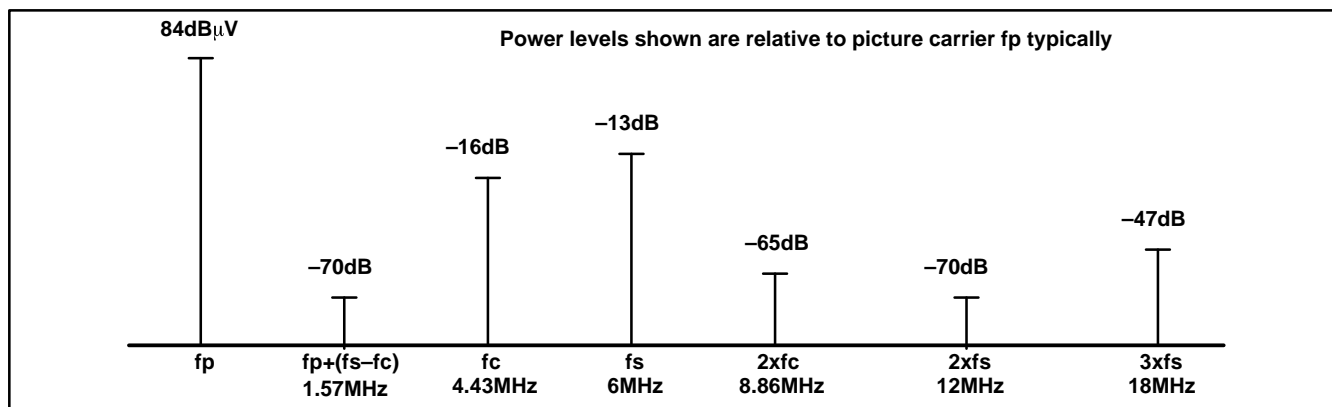
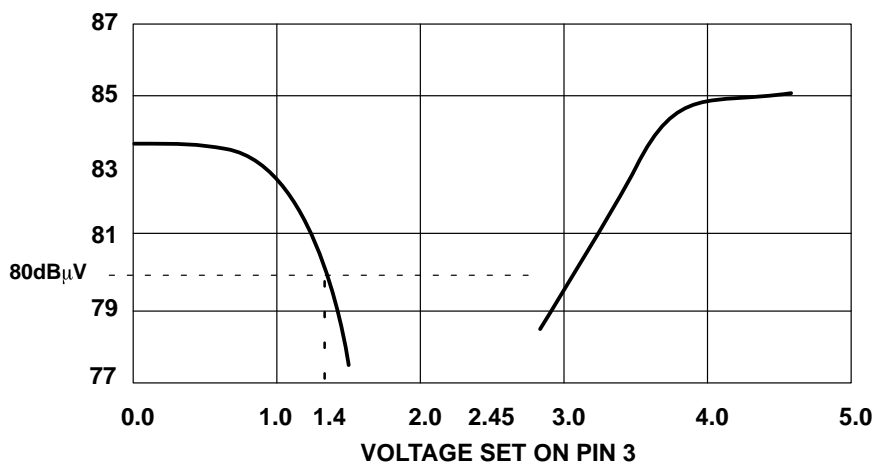

Fig. 3 Frequency spectrum above the Video picture carrier ($Q_{TANK} = 9$)
Fig. 4. Picture carrier, unmodulated RF output level
2. May be increased by use of external resistor, see Fig. 3
3. May be adjusted by use of external resistor dependent on video content, see Fig. 4
Pin 3 (MOD INDEX) is used to control both RF carrier amplitude and video polarity, see Fig. 3. Since the video input is internally AGC'd, varying the carrier amplitude will also adjust the video modulation index, see Fig. 4.
For example, for a negative modulation (PAL or NTSC) with an 80% modulation index, pin 3 should be set to 1.1Volts (see Fig. 4). This voltage corresponds to an unmodulated RF output level of 82dB μ V, see Fig. 3.
As already stated, great care must be taken with the mod index pin, pin 3. This should be decoupled with chip components as close to the pin as possible. Ideally the mod index should be defined with a DC voltage, thus requiring the use of two external resistors, see Figs 4 and 5. It is also possible to define mod index through the use of a single resistor connected to ground or V_{CC} depending on whether negative or positive modulation is required.